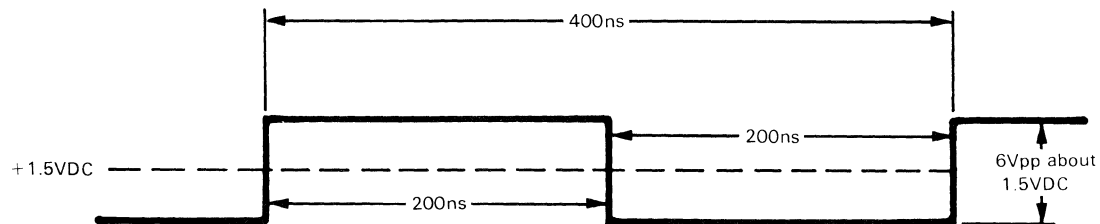

Figure 4-4. Input Threshold and Minimum Swing Test Waveform
- d. Adjust pulse generator output for waveform as shown in figure 4-4.